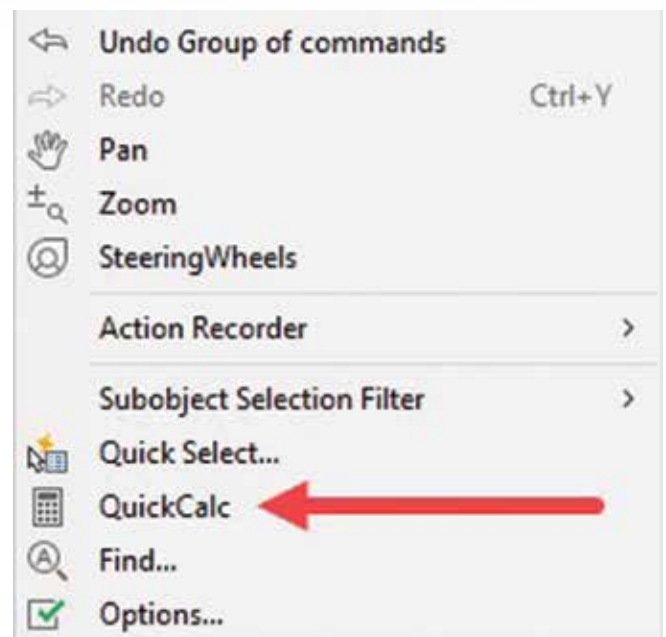

Figure 7
4. In the drawing area with no command active, right-click and choose QuickCalc (Figure 7).